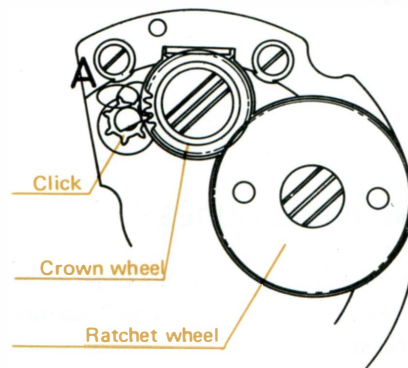

Fig. 4
- An epicyclic gear type click which requires no wire spring is employed. This click is freed when the mainspring is wound by the crown and in ordinary cases, it is pushed against the slit (A) on the barrel bridge by the power of the mainspring and locked. (Fig. 4)